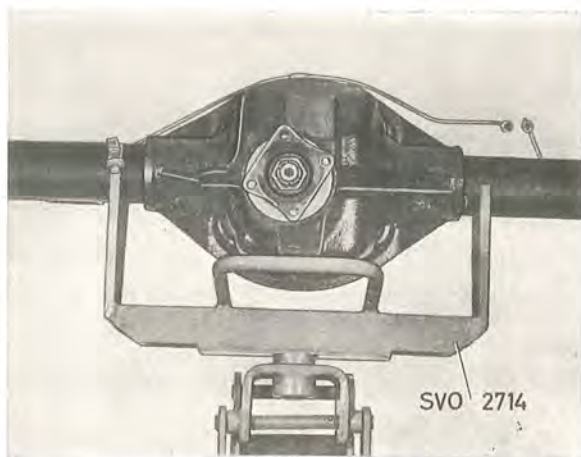

Fig. 4-99. Fixture for rear axle
1. Place the rear axle on fixture SVO 2714, which is mounted on a garage jack, see Fig. 4-99. Move the rear axle in under the vehicle and fit on the bolts for the support arms and torque rods.